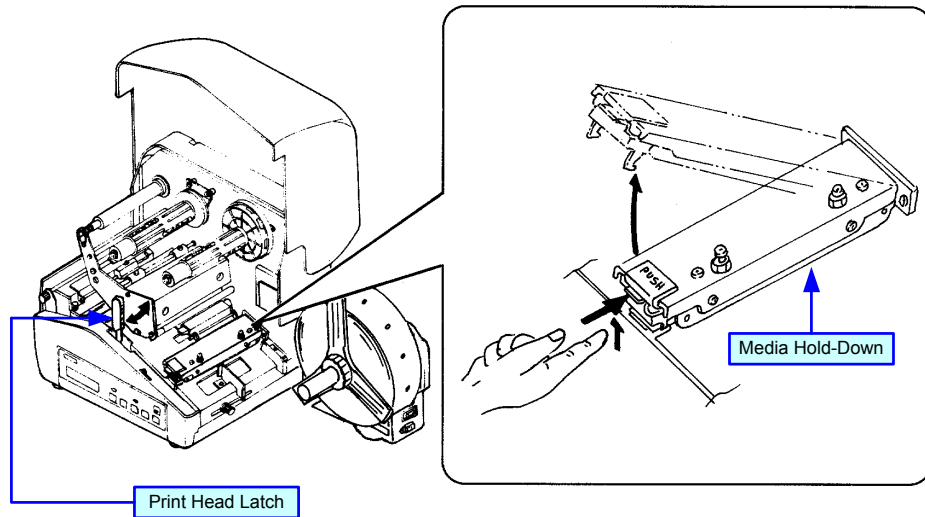

Figure 3-3c, Media Loading
- 5 Release print head latch and hinged media hold-down (**Figure 3-3c**).